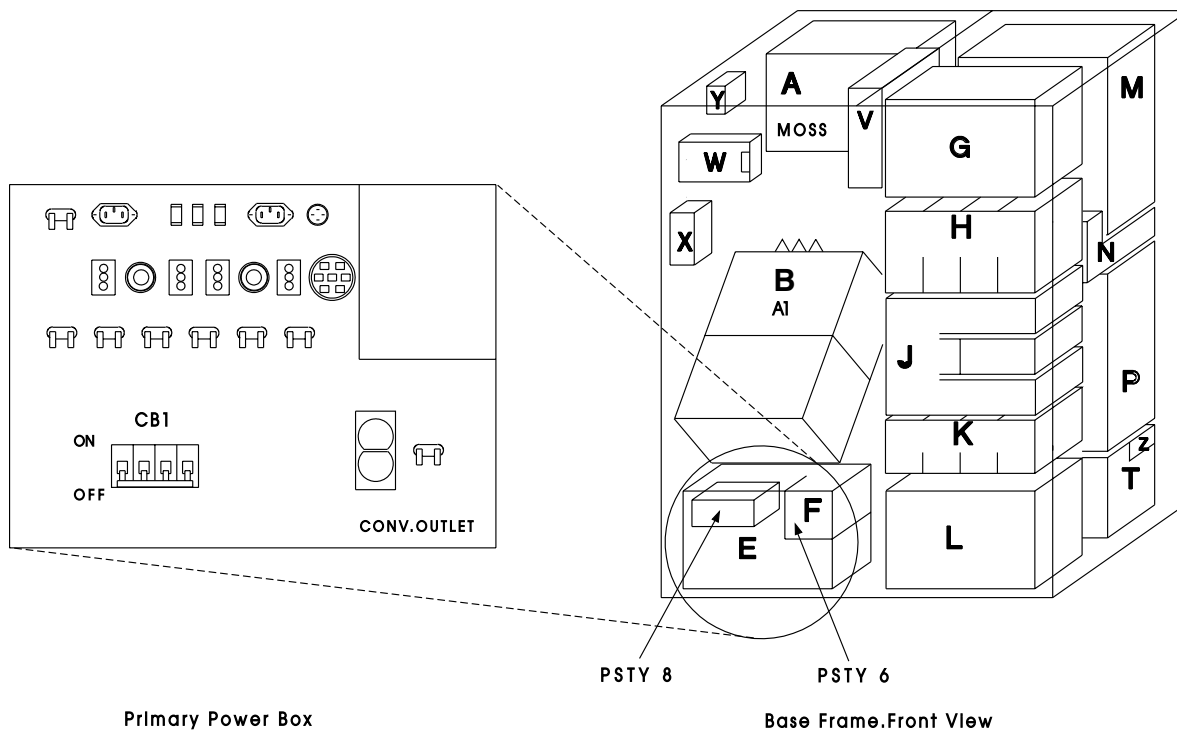

Figure 4-119. Primary Power Box in Frame 01
7. Switch the **CB1** OFF. Refer to Figure 4-119 on page 4-130 for the location of CB1.
3. Switch the **CB1** OFF. Refer to Figure 4-119 for the location of CB1.